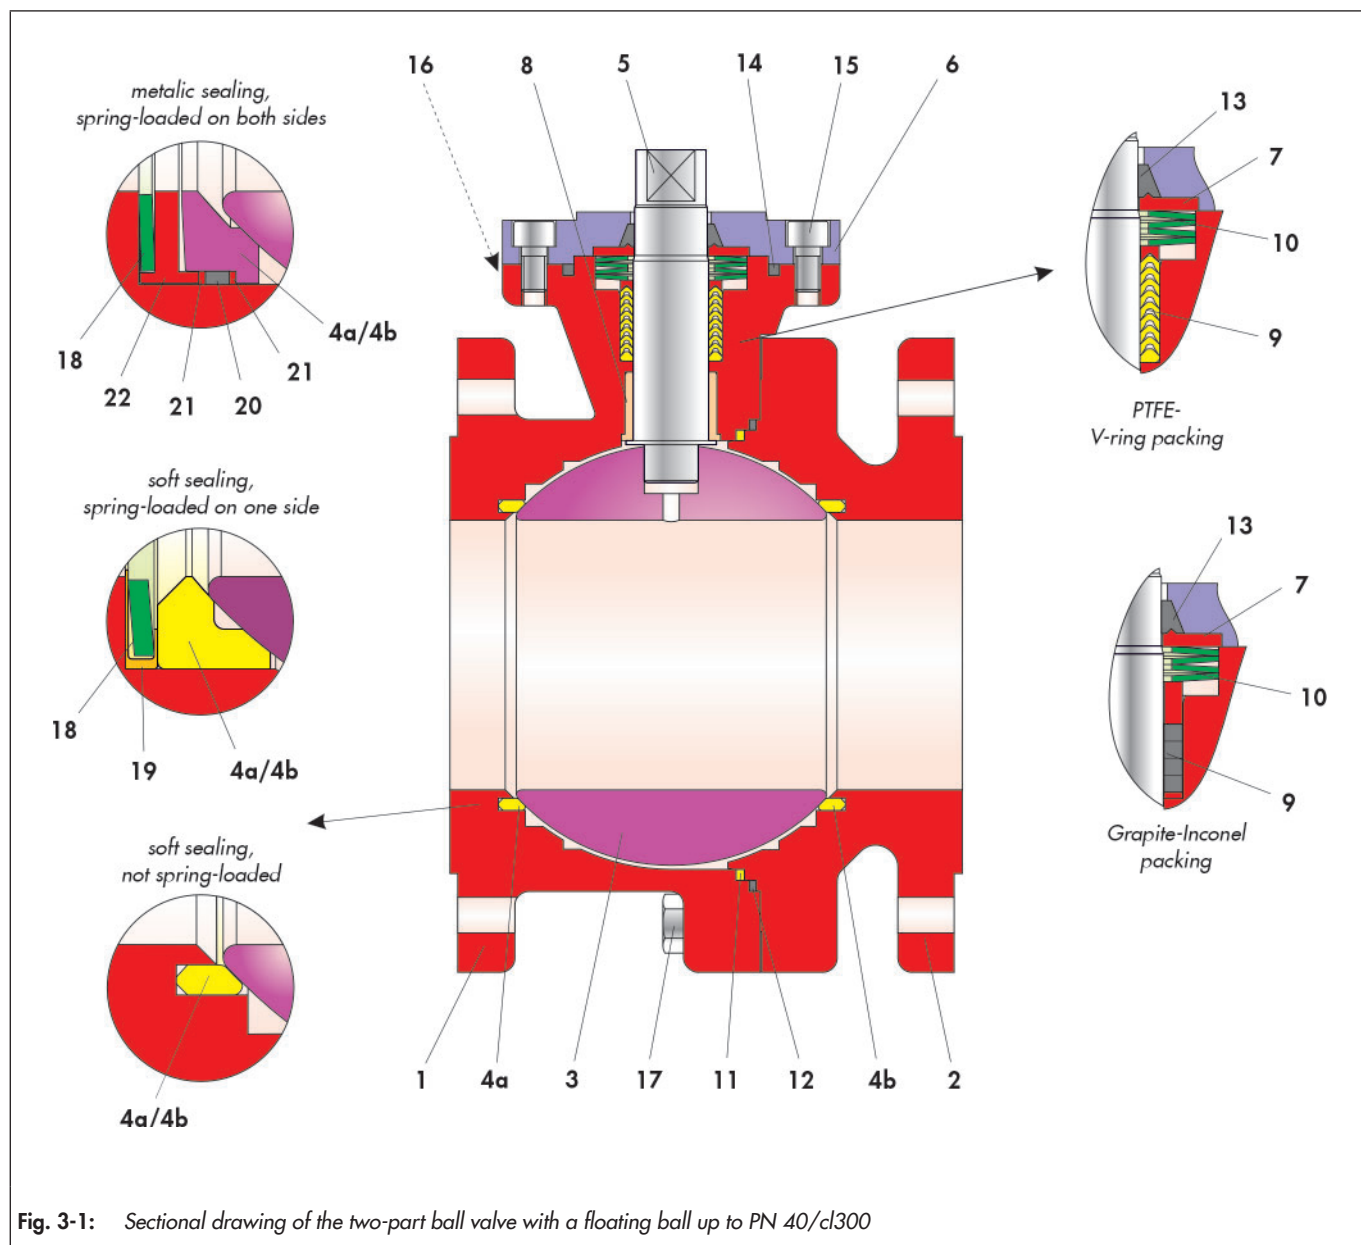

Fig. 3-1: Sectional drawing of the two-part ball valve with a floating ball up to PN 40/cI300
The position and arrangement of the individual parts shown in Fig. 3-1 must be observed during assembly.
- ⇒ Screw the body sections together with screws (17) evenly and in a criss-cross pattern.
- ⇒ Push the V-ring packing or graphite packing (9) with a slight rotation movement over the assembled control shaft (5) and insert it into the packing space of the main body (1). Arrangement of the V-rings see Fig. 3-1.
- ⇒ Place the disc spring set (10) on the packing (9). Arrangement of the disc springs, see Fig 3-1.
- ⇒ Push the bush (7) over the control shaft (5) such that it lies on the disc spring (10).
- ⇒ Push the carbon-graphite ring (13) carefully over the control shaft (5) up to the bush (7).
- ⇒ Insert the carbon-graphite ring (14) into the groove of the stuffing box flange (6).
- ⇒ Place the stuffing box flange (6) over the control shaft (5) onto the main body (1).
- ⇒ Lightly grease the screws (15).
- ⇒ Evenly adjust the stuffing box flange (6) with the screws (15) and tighten in a criss-cross pattern.